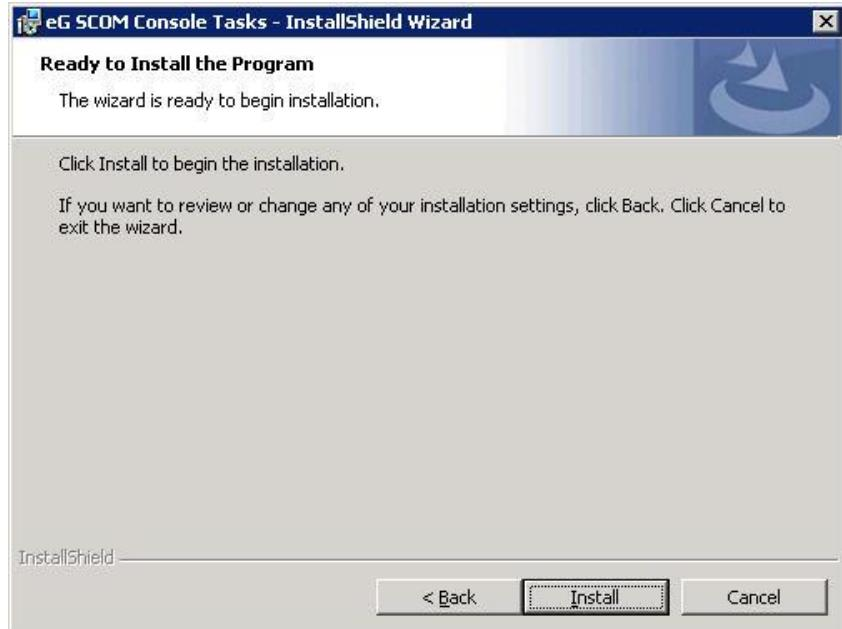

Figure 2.22: Click 'Install' to install the eG Console Tasks application
6. Click **Next** on Figure 2.21 to proceed. When Figure 2.22 appears, click **Install** to begin installing the eG Console Tasks application.